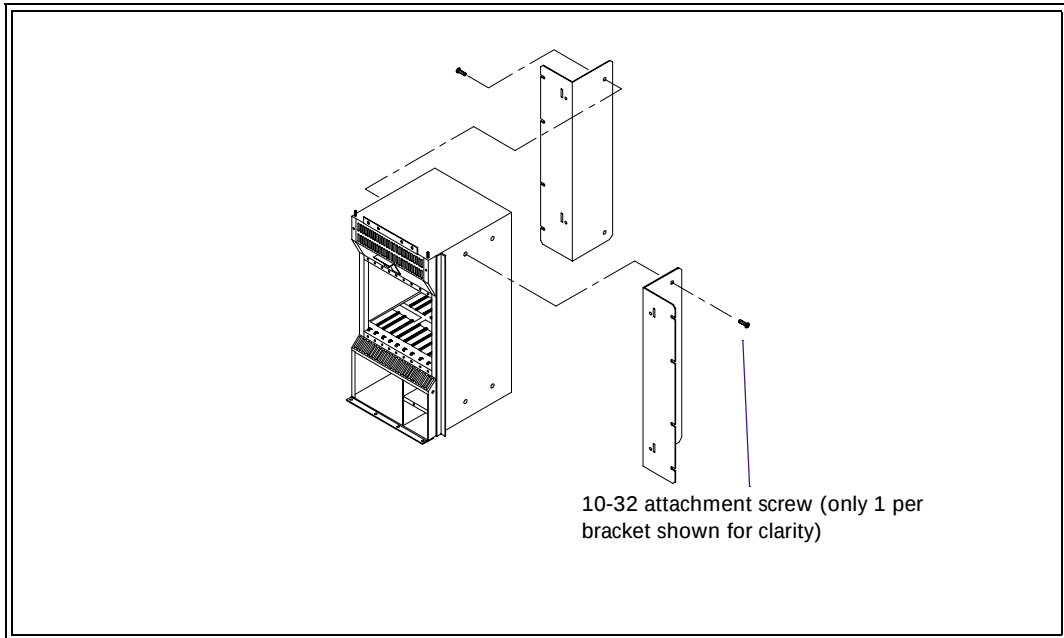

Figure 3-6: Attaching the rack mount plates to the WAVExpress/BTS chassis
Step 1 Two rack mount brackets are supplied with the chassis, one left bracket and one right bracket. Mount the two brackets to the appropriate side of the chassis using 2 10-32 screws for each side, as shown in Figure 3-6 : "Attaching the rack mount plates to the WAVExpress/BTS chassis" on page 36 using the supplied machine screws.